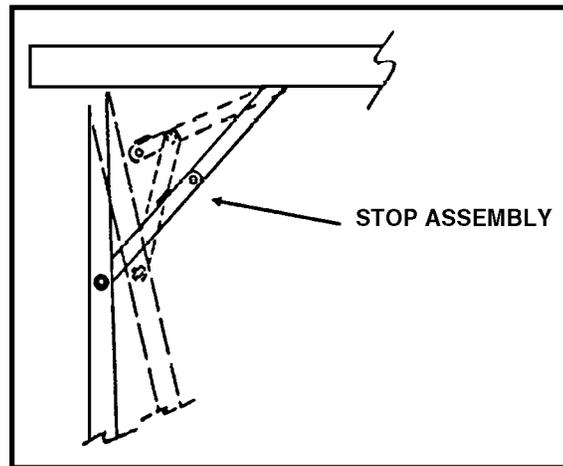

Figure 2-31. Stop assembly.
- (1) Remove the shelf piece from the work table crossbar.
- (2) Turn the work table upside down.
- (3) Push in the linkage from the full extended position. (See Figure 2-31.)